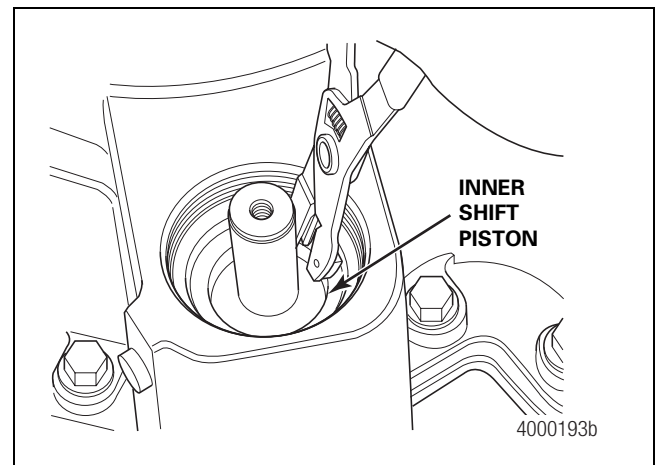

Figure 6.29
2. Install O-rings onto the inside diameter and outside diameter of the inner piston. Install the inner shift piston and snap ring onto the shift shaft. Figure 6.29.